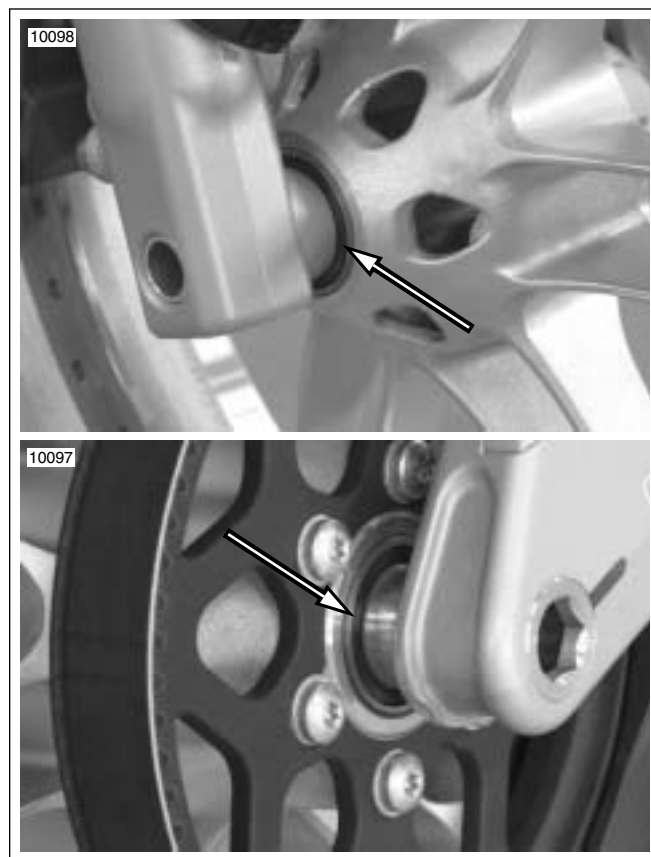

Figure 1. Wheel Bearing (Seal Area) Identification
See Figure 1. Old wheel bearings can be identified by a black seal area visible without disassembly to the vehicle. New wheel bearings can be identified by an orange seal area.
- See Figure 1. Inspect bearings to determine which seal is present. If black seal is present, replacement is needed. If bearings need to be replaced, refer to the appropriate service manual for the model being serviced for instructions on replacing wheel bearings.